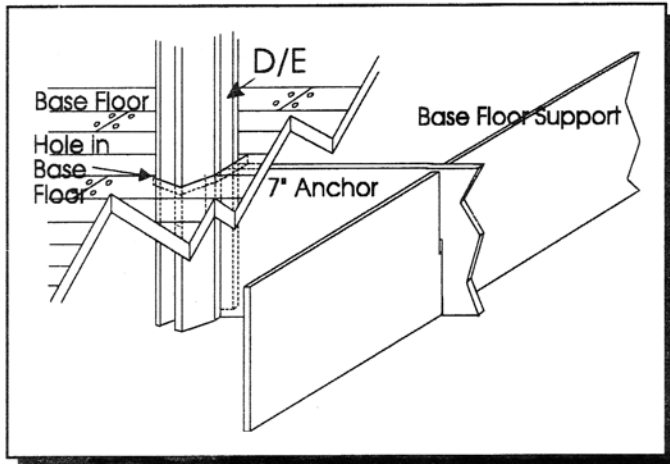

Figure 14
5. The ends of the 7" Base Floor Support/Anchor glue into the grooves of the cornerposts protruding below the Base Floor. This connection anchors the walls to the base. See Figure 14.